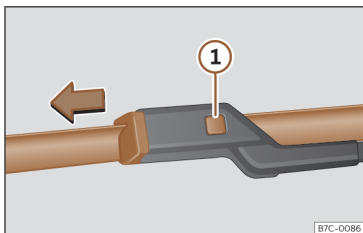

Fig. 197 Changing the windscreen wiper blades
- Press and hold release button >>> **Fig. 197** ① and pull gently on the wiper blade in the direction of the arrow.